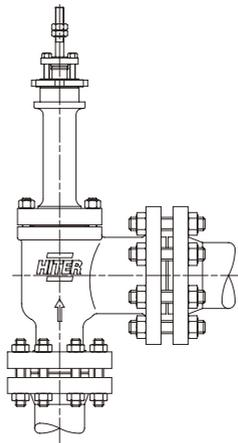

Fig. 1 – 2003 Séries
- 4.6. During installation the actuator must be positioned on valve in vertical position (Figure 1). If this is not possible, look for a position closer the vertical one. The horizontal position should be avoided and, in some cases, there should be a support to the actuator.